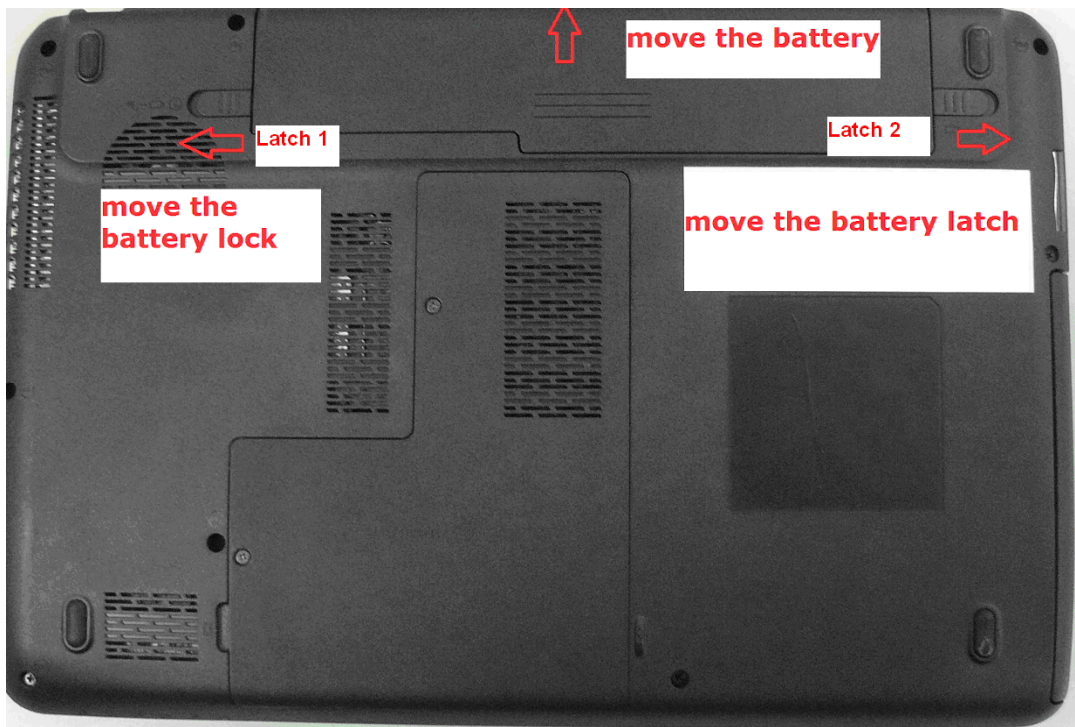

Figure 4-2-1 Remove the Battery Pack
The following describes the procedure for removing the Battery Pack (See Figure 4-2-1).
2. Remove battery (see Figure 4-2-1)